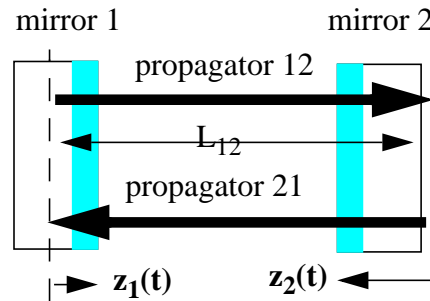

Figure 4: Fabry-Peroit cavity
E.g., a Fabry-Peroit cavity is constructed by two mirrors with two propagators connecting these two mirrors, as is shown in Figure 4.
The mirror displacements are subtracted because of the z axis convention, i.e., z axis of each mirror is pointing outward from the coated surface. When mirrors are displaced with respect to their respective reference plane as is shown in Figure 4, z_1 and z_2 are both positive in this convention, and the length between the two mirrors are shorter than L_{12} by z_1+z_2 .